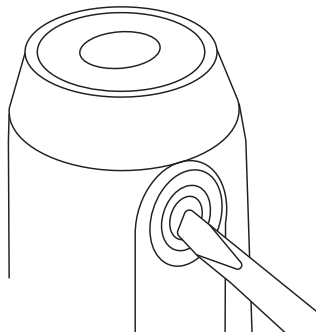

Fig 7
- 3- Use a screwdriver to remove the brush holder caps. Take out the worn carbon brushes, insert the new ones and secure the brush holder caps (Fig7).